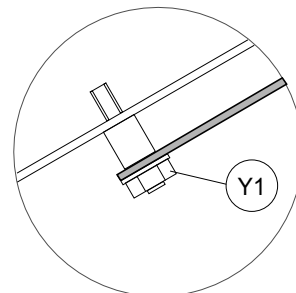

Fig. 50
- 4) take the electronic circuit board off by unscrewing the (Y1) nuts off (fig. 50).